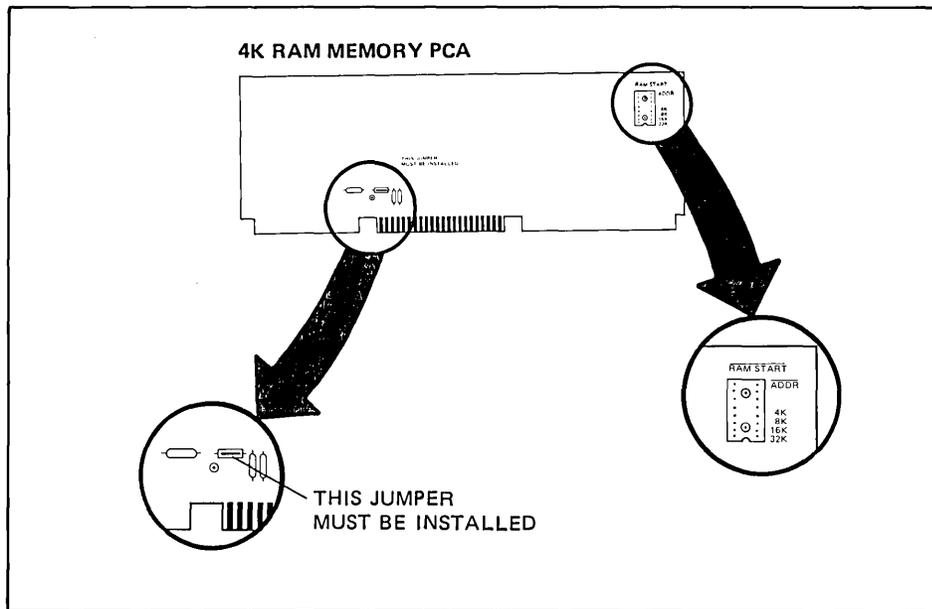
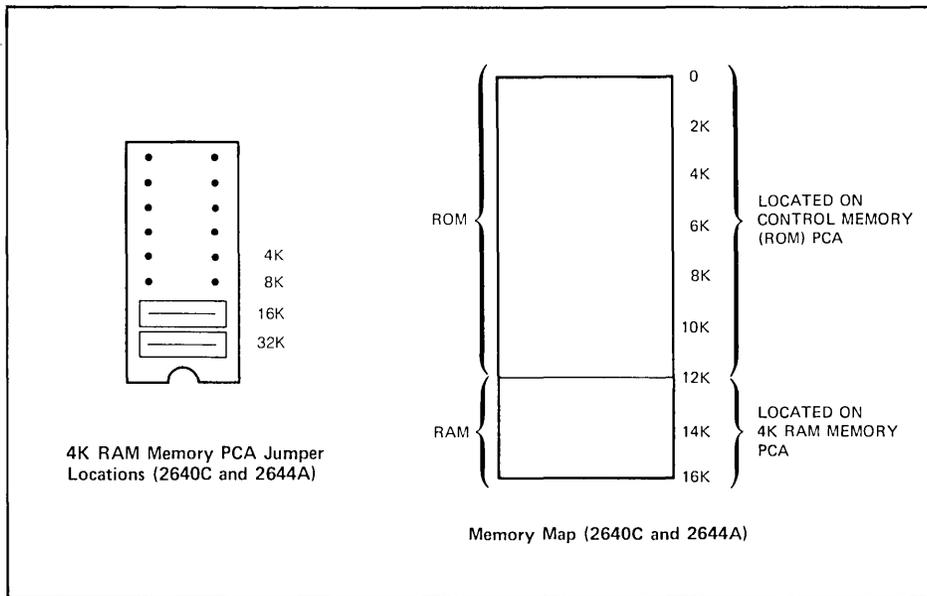

Figure 3-6. 4K RAM Memory PCA Jumper Locations
Figure 3-7. +4K Memory PCA Strapping for 2640C and 2644A Terminals
1. Ensure that a jumper is installed in the unlabeled jumper location near the “-5” test point in the lower center of the PCA (figure 3-6).
3. Strap the 4K RAM Memory PCA to indicate the starting address of the block of memory on the PCA. See figure 3-6 for the jumper locations. Terminals 2640C and 2644A must be strapped as shown in figure 3-7. See the examples for further clarification on strapping of the other terminals.
In the above illustration (figure 3-7), the starting address is 12K (the 4K and 8K jumper location are empty).